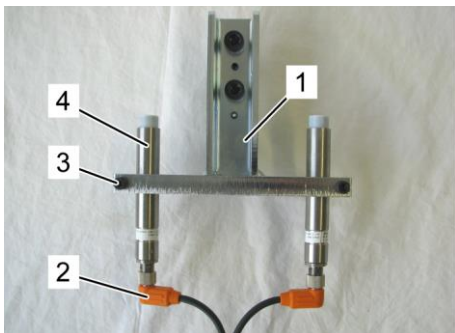

Fig. 39: Cables and sensor connected
2. Connect the sensor cable (Fig. 39/2) to the sensor at the respective compartment (the side where the crosshead is in the bottom dead centre) (Fig. 39/4) to have a correct alignment of the connector.
3. Insert the sensors in the sensor bracket (Fig. 39/1) at the respective compartment (the side where the crosshead is in the bottom dead centre)